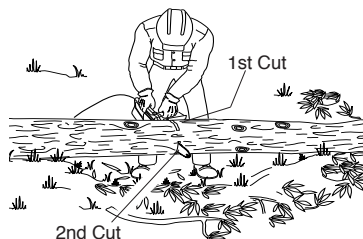

Figure 14 - Bucking Log When Log Is Supported On Both Ends
1. Make first cut from above log (see Figure 14). Cut 1/3 through diameter of log. This cut will keep section from splintering when cut.